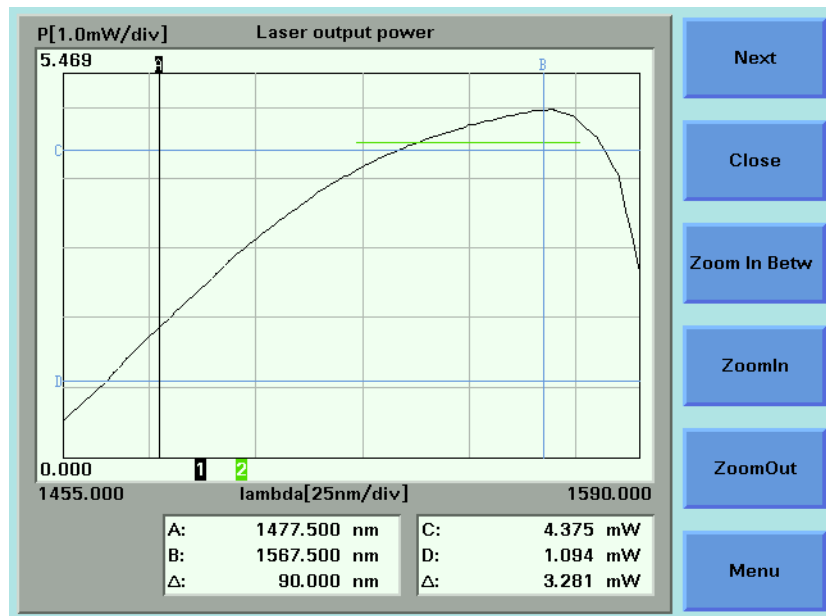

Figure 187 The Pmax Curve Screen
- 2 Move to *<Pmax curve>* and press *Enter*. The Pmax Curve Screen, as shown in Figure 187 on page -302, appears.